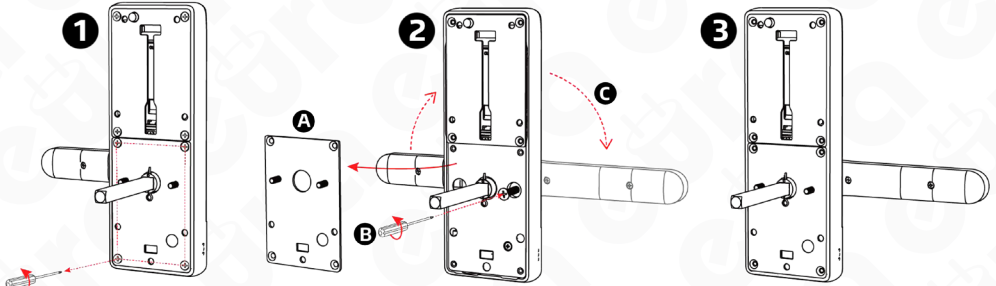

Fig. 6.
- unscrew the 4 bolts from the base of the door plate, holding the cover (Fig. 6),
- remove the cover (Fig. 6, position 1-A),
- remove the locking screw (Fig. 6, position 2-B),
- move the handle to the desired opening direction (Fig. 6, position 2-C)
- replace the cover and fasten the fixing screws (Fig. 6, position 3)